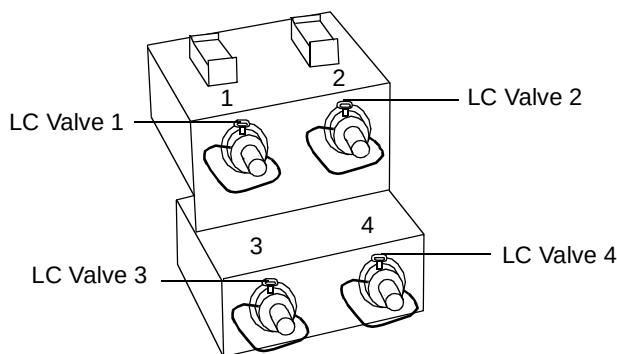

Figure 2-44 Reference Positions for the 4-Valve Module
9. For a 4-valve module, repeat steps 3 through 8 to define all four injection valves (Figure 2-44).